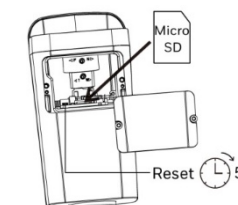

Figure 1
1. If you are using a microSD card with the camera, install it before continuing. Remove the panel on the underside of the camera and insert a microSD card into the SD card slot (refer to Figure 1).